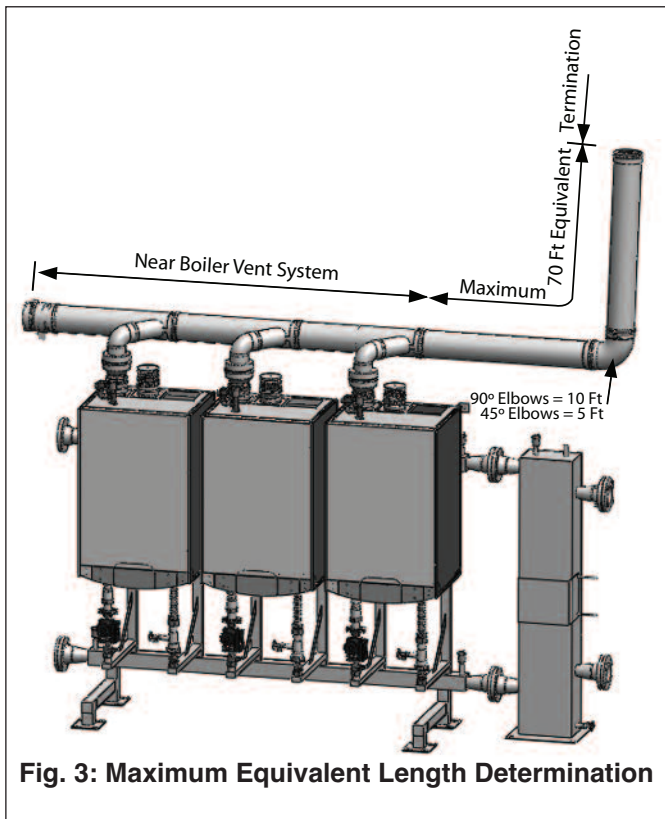

Fig. 3: Maximum Equivalent Length Determination
The maximum equivalent length of the Cascade Vent System should not exceed 70 feet (excluding the termination and common vent near boiler assembly, see Fig. 3). For each 90° elbow in the system, the equivalent length is reduced by 10 feet. For each 45° elbow in the system, the equivalent length is reduced by 5 feet.
4. Secure the two components together by placing a clamp over the connection and secure the clamp with 2 bolts and nuts provided. The edge of the clamp should be installed adjacent to the gasket groove of the female pipe end as shown in Fig. 3